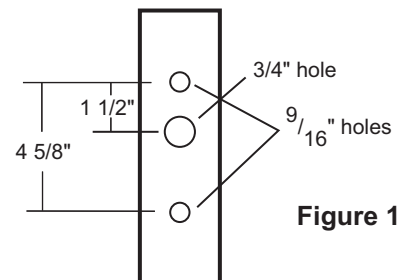

Figure 1
1. The pole must have two 9/16" holes and one 3/4" hole (See Fig. 1).